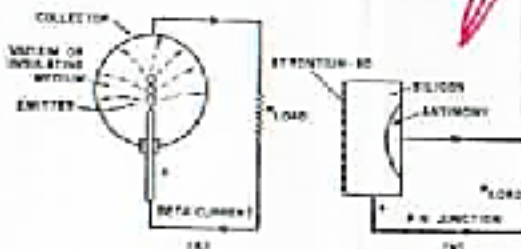

Fig. 5. Schematics of two classical battery types using nuclear energy.
Work is also under way in the field of atomic power plants. The specific aim is to bypass the traditional nuclear power plant and its cumbersome reactors, turbines, and the like by realizing the current-generating capacity of the radioactive materials themselves. In Fig. 5 are shown two "classical" nuclear battery types. The design in (A) is a beta-current type in which high-speed electrons emerge from the radioisotope coated on a central emitter electrode and are collected by an outer conducting member. Design (B), coated on one side with Strontium-90, allows the radiation to produce an electron avalanche in one element of the junction diode. These electrons are collected